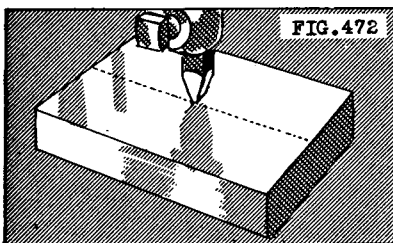

FIG. 472
5. Move the tool down until the point of the tool touches the top surface of the work (Fig. 472).